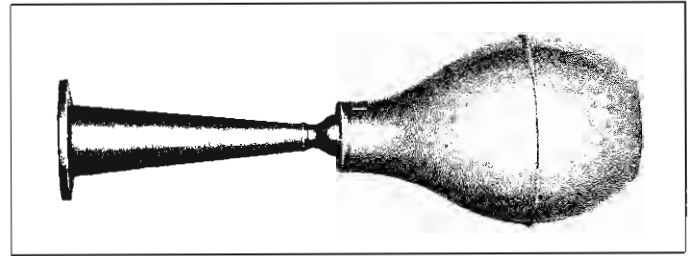

Fig. 72—Vacuum Cup
4. Install oil seal in lower groove on stem making sure seal is flat and not twisted in groove. Install valve locks and release compressor tool, making sure locks seat properly in upper groove on stem. Check each seal by placing a vacuum cup or similar device over end of valve stem and against cap to make sure no air leaks past cap. A vacuum cup can be made from a small ear syringe and a high voltage rubber shield such as (Sun Electric #1578), shown in Figure 72.